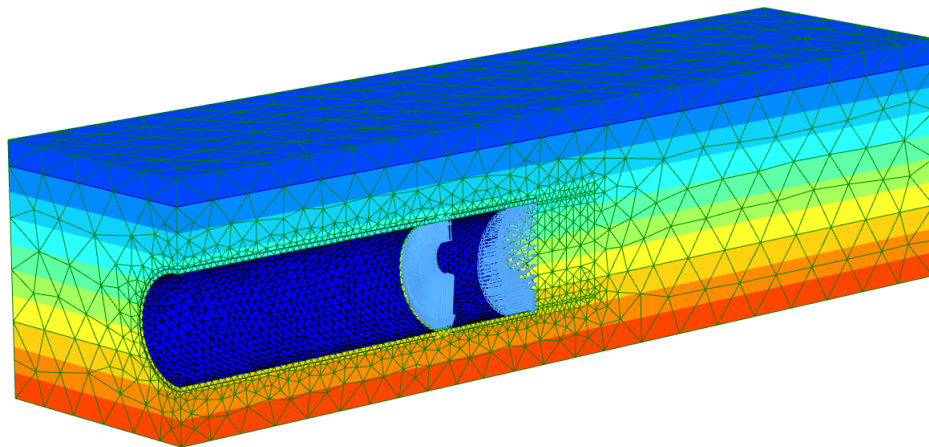

Figure 82: Preview of the Phase 1
7.  Click the **Preview** button to get a preview of everything that has been defined (Figure 82 (on page 107)). Make sure that both grout pressure and tunnel face pressure are applied and that both increase from top to bottom.